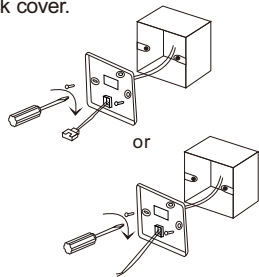

Fig.2
3. As shown in Fig.2, fix $\phi 4 * 20\text{mm}$ screws provided together with the back cover on 8 6 box, then pass lead wires through the back cover.